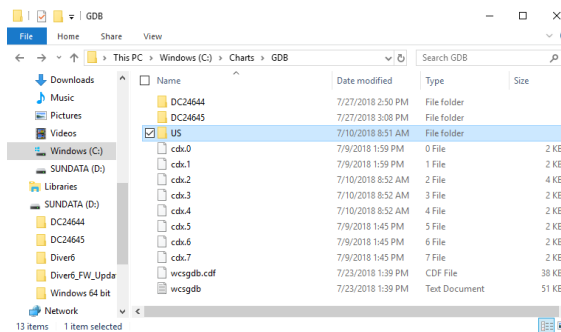

Figure 74: Chart Directory
1. Download your charts and place them in your chart GDB directory. See (Figure 74) the example directory structure to the right.